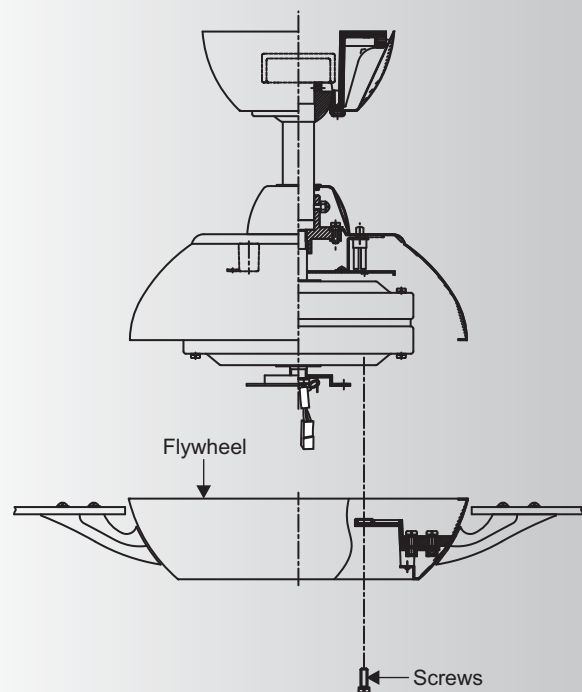

Fig. 17
Step 4. Raise the flywheel assembly up against the fan motor. Position the flywheel over the fan motor. Align the holes on the fan motor and flywheel, and secure by using the screws provided. (Fig. 17)